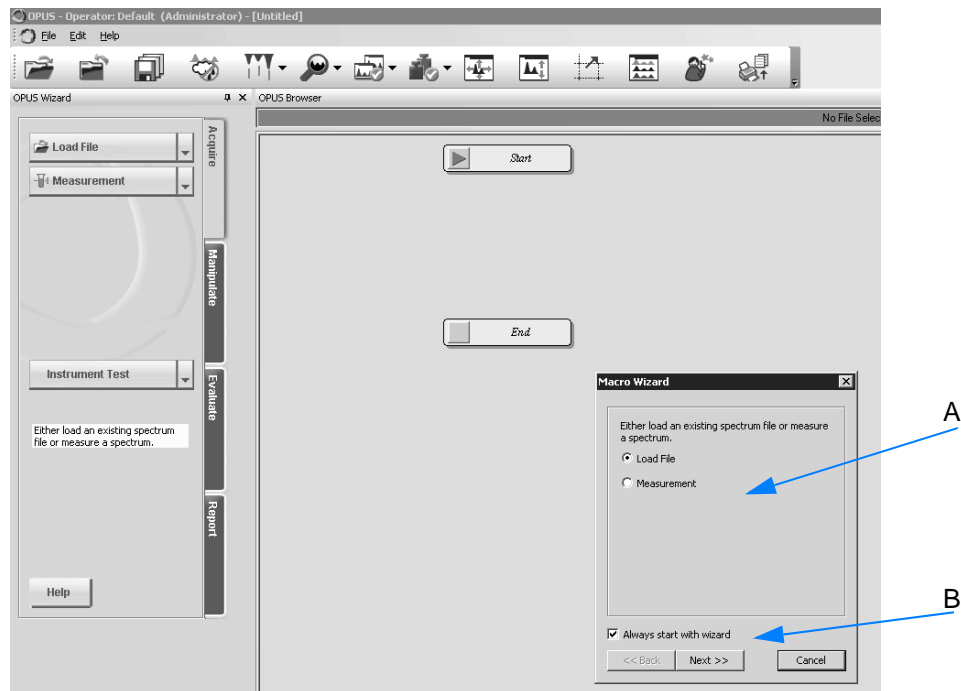

Figure 214: New procedure view
By default, the macro wizard (A in figure 214) is displayed in this view. If you want to change this default setting, deactivate the *Always start with wizard* check box (B). In this case you have to define the procedure manually.